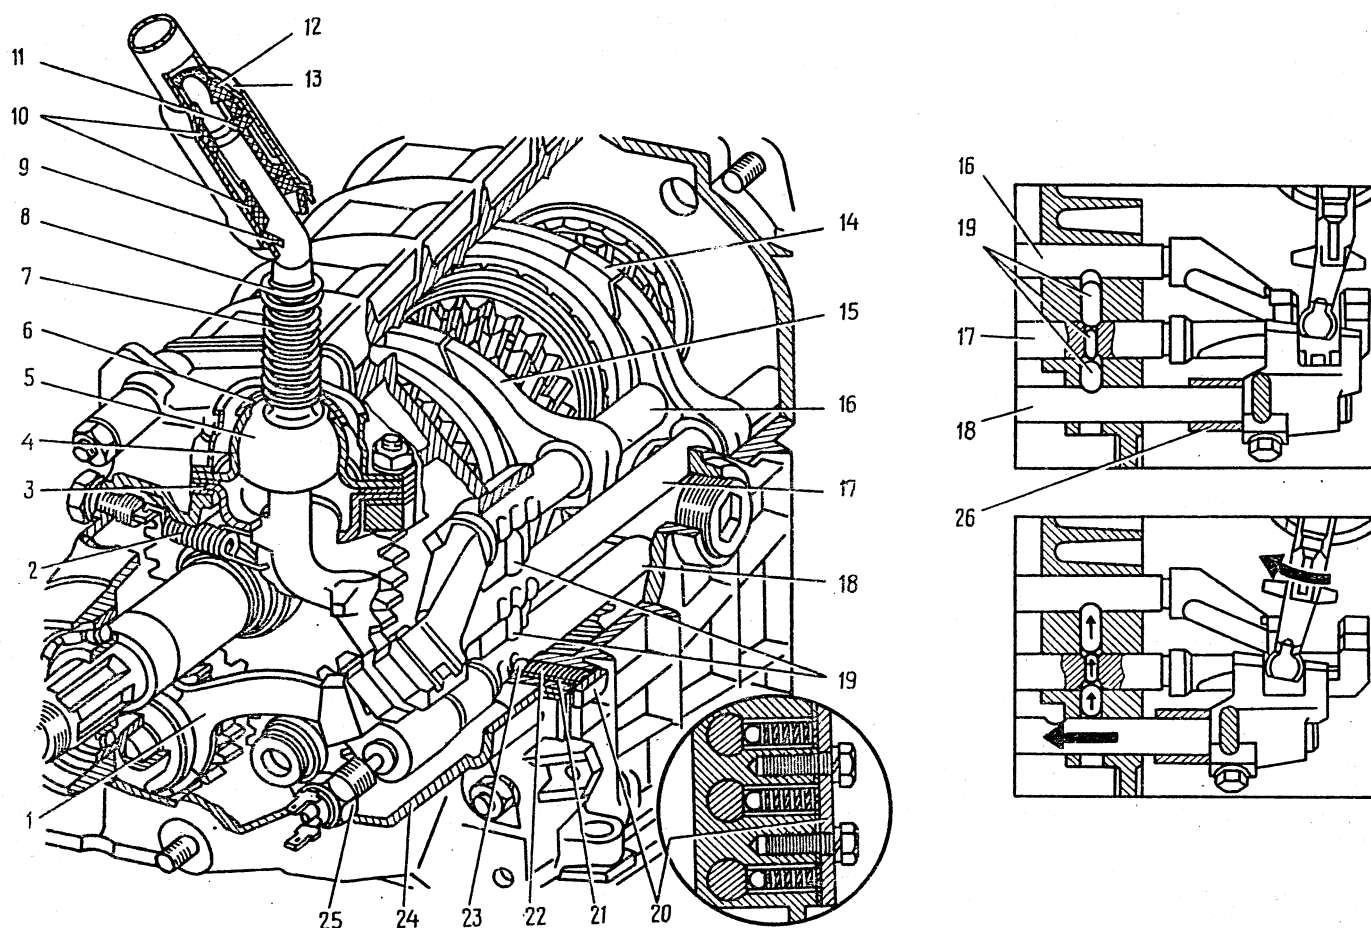

Fig.3-22. Gearshift Mechanism:
Take off shift rail lock cover 20 (Fig. 3-22) complete with the gasket, remove reverse speed shift rail 18, 3rd and 4th speed shift rail 17 from the gearbox housing. Unscrew the bolt of 1st and 2nd speed shift fork, take out the shift rail and forks. While removing the shift rails, take out simultaneously three interlock retainers 19. Remove the locking plate (Fig. 3-23) of the main shaft intermediate bearing and the reverse speed idler gear axle.
- spring 22 (Fig. 3-22) of the lock ball of the reverse speed shift rail differs from other springs in its resilience; it is painted green or is cadmium coated;